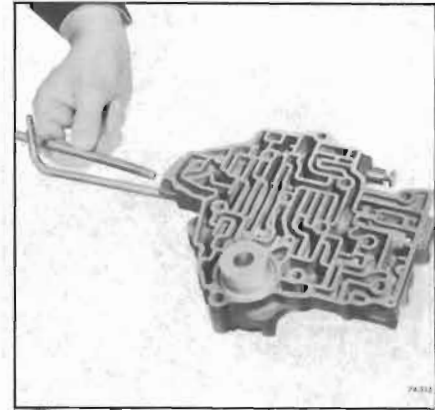

Figure 74-515
3. Remove governor pipes from valve body assembly. See Figure 74-515.